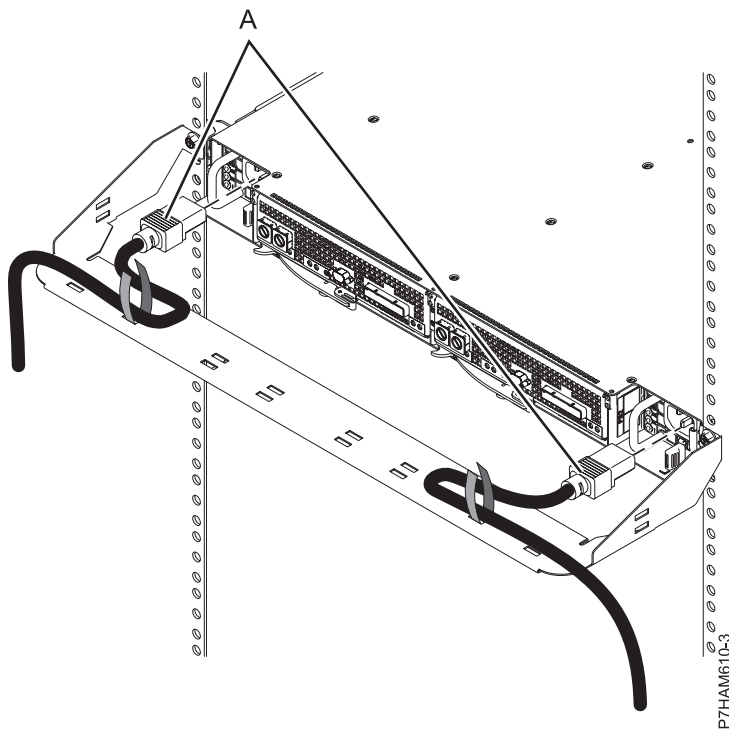

Figure 19. Installing the power cords
- h. At the rear of the rack, install the power cables (A), as shown in Figure 19. Use Velcro ties to secure the power cords to the cable management bracket.